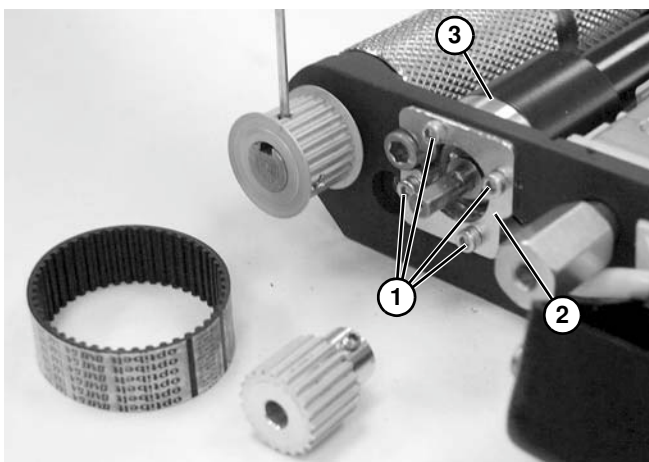

Figure 129
- Remove four clamp plate screws (**Figure 129, item 1**) and clamp plate (**Figure 129, item 2**).
- Remove and replace motor (**Figure 129, item 3**).